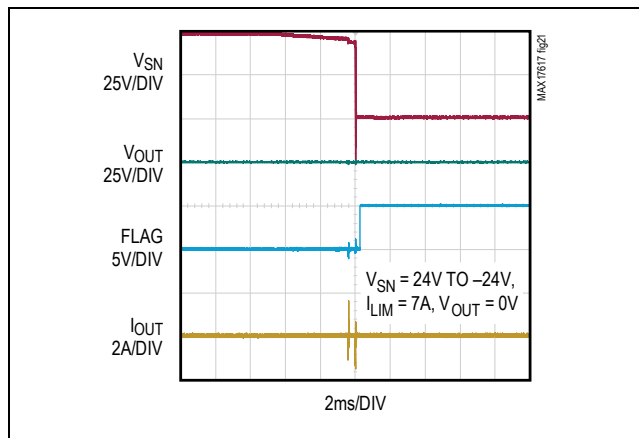
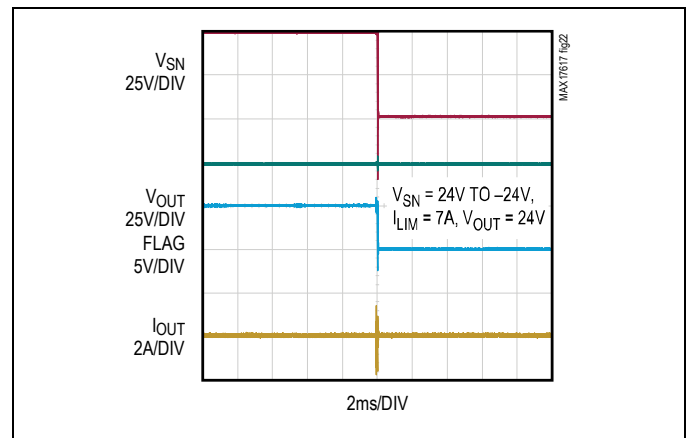

Figure 21. Input Reverse-Polarity Protection at  $V_{OUT} = 0V$  and  $V_{SN} = -24V$
Figure 22. Input Reverse-Polarity Protection at  $V_{OUT} = +24V$  and  $V_{SN} = -24V$
The magnitude of reverse-polarity voltage protection is dependent on the operating load bus voltage ( $V_{OUT}$ ) and the voltage-blocking capability of the external nFET. For example, for protection down to a -55V input voltage with  $V_{OUT} = 30V$ , an external nFET rated for 85V is needed. The devices provide a gate drive (GN) of 6.5V (typ). Figure 21 shows the reverse-polarity protection of MAX17617 with  $V_{OUT} = 0V$  and  $V_{SN} = -24V$ . Figure 22 shows the reverse-polarity protection of MAX17617 with  $V_{OUT} = +24V$  and  $V_{SN} = -24V$ .